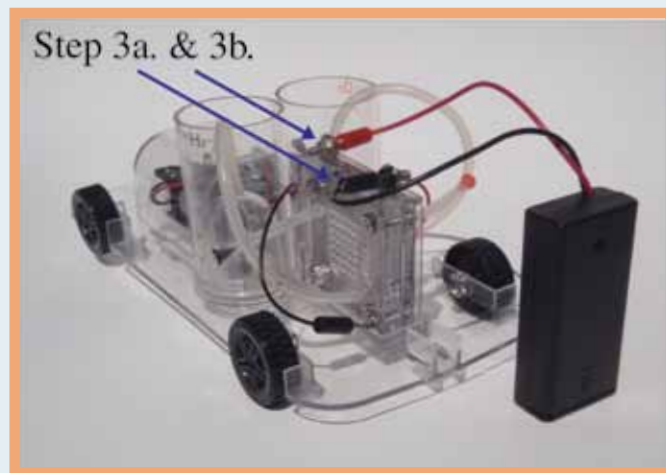

FIG. 5. Connection of the battery plug to the electrolyzer.
3. Connect the battery plug to the water electrolyzer (see Fig. 5).